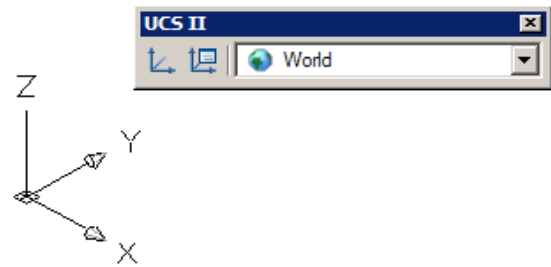

Figure Step 4
Step 4 Change the view to SE Isometric and the UCS to World as shown in Figure Step 4.